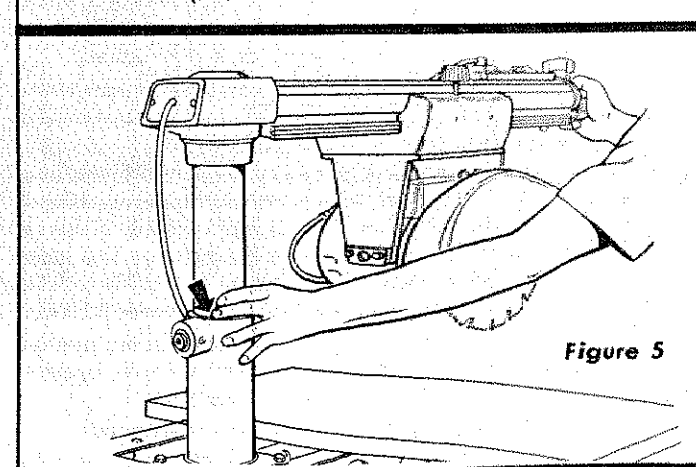

Figure 5
2. Grasp arm latch handle (20, figure 24) with one hand and hold fingers of other hand at parting line between column tube and column support. (See figure 5.) Apply gentle side force to the radial arm in opposing directions. Any looseness between column and column support, (indicated by arrow in figure 5) can be felt with fingers.
3. If looseness can be felt, at point indicated by the arrow in figure 5, perform operations outlined in instructions that follow: